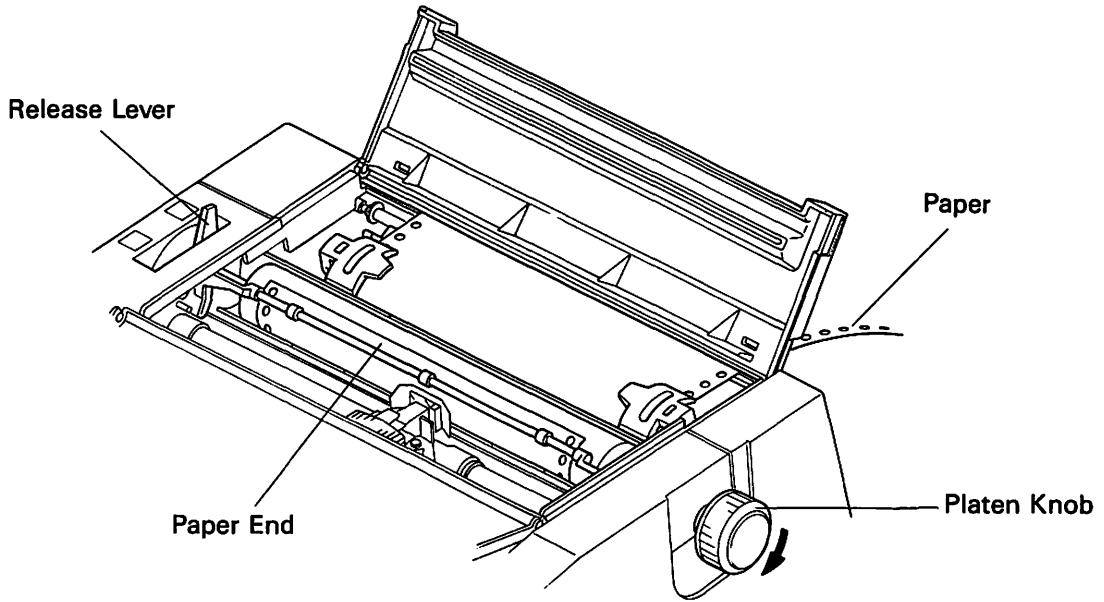

Fig. 2-7
6) Push down the paper retainers of the sprocket tractors. Turn the platen knob clockwise until the paper end comes out on the platen. Push back the paper bail to hold the paper against the platen and push the release lever to the rear to the "Pin Feed" position. (See Fig. 2-7)